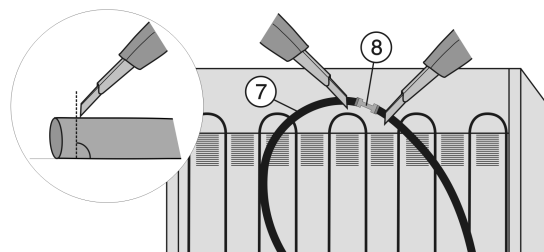

Fig. 35
- Slice open the water hose Fig. 35 (7) located behind the appliance both in front of and behind the connector Fig. 35 (8) (90° to direction of hose).